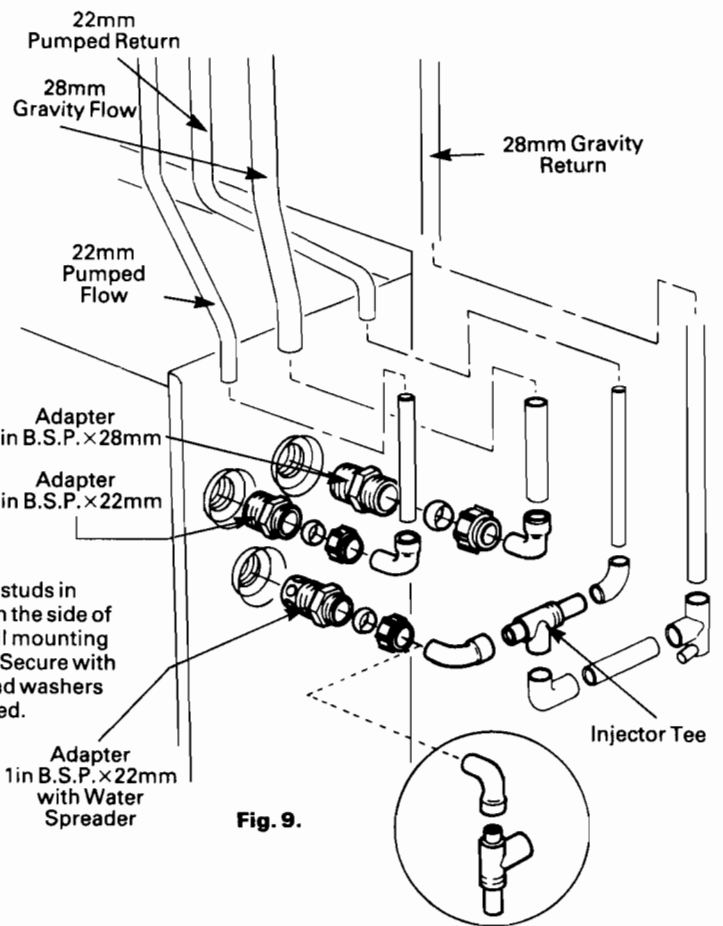

Fig. 9.
The pipes should be connected in the following order, see Fig. 9 for example:
- Fit the gravity injector tee provided to the return adaptor using a 22mm street elbow, nut and olive, **with the 28mm diameter spigot facing down and the 22mm brass spigot inserted in the street elbow** as shown in Fig. 9.
- Connect the pumped return pipework to the 22mm pipe supplied on the injector tee – see Fig. 9.
- Fit the 1in BSP×28mm adaptor provided into the top back tapping – Fig. 9 – and connect the gravity flow pipework using the 28mm street elbow, nut and olive.